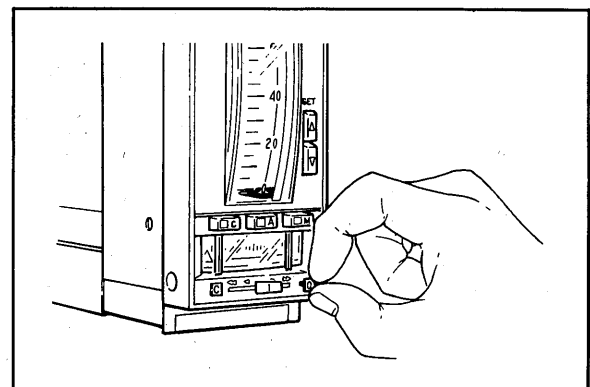

Figure 5-9. Setting Valve Open/Closed Indexes.
- (1) Setting Valve Open/Closed Indexes (See Figure 5-9.)